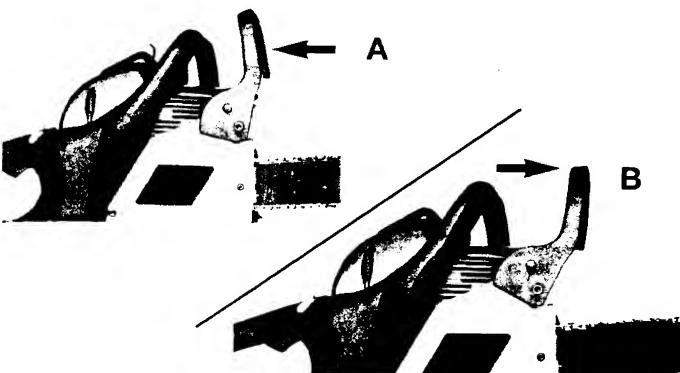

Fig. 24
1. The Chain Brake® is DISENGAGED (chain can move) when BRAKE LEVER IS PULLED BACK AND LOCKED (A, Fig. 24).
2. The Chain Brake® is ENGAGED (chain is stopped) when brake lever is in forward position. You should not be able to move chain (B, Fig. 24).